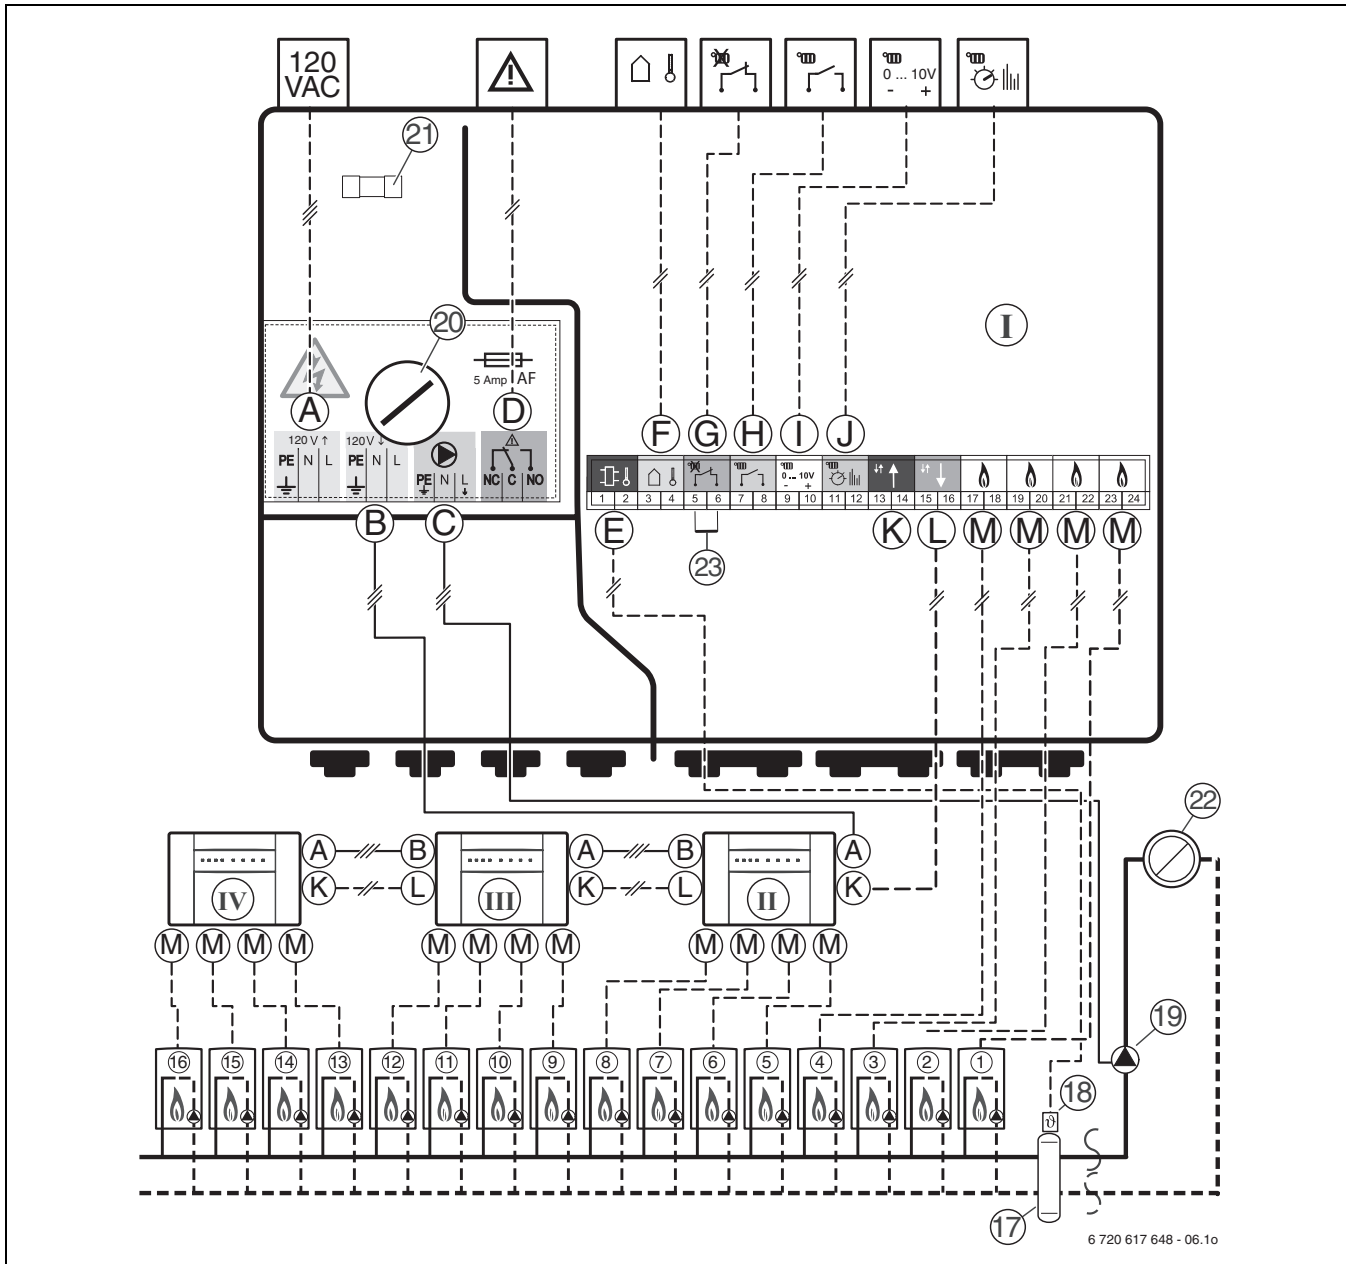

Fig. 6 Wiring diagram
1) (→ fig. 6, page 10)
The ICM modules stage the boilers based on the heat demand calculated. The heat demand is communicated to the ICM in 4 different ways (→ fig. 6, terminals H, I or J, page 10), (→ table 5).
One ICM module can control up to 4 boilers. By connecting up to 4 ICM modules, up to 16 boilers can be linked to form a single cascade (→ fig. 6, page 10). In this case, one ICM module controls the cascade (ICM master).
The ICM module is equipped with an external switching contact (→ fig. 6, [G]). For the characteristics of this switch, see → table 2, page 5.
Any additional modules (→ fig. 6, [21], page 10), must be connected to the BUS of the heating controller.
- ▶ Always wire in accordance with the wiring diagram (→ fig. 6, page 10).
The fault output can be used to signal the device status. The NC pins are powered when no fault is present. The NO pins are powered when a fault is present. (→ fig. 6, terminal D, page 10). The fault LED on the ICM will light when a fault is present and the relay is engaged. (→ table 9, page 16).
In conjunction with the Hydronic 3, always connect the outdoor temperature sensor to the ICM module (master) (→ fig. 6, page 10) and not to the boiler.
For system version 1, the common supply water temperature sensor must be connected to terminals J and for the system versions 2, 3 and 4, to the ICM, terminal E (→ fig. 6, [18], page 10).
Use terminal G (→ fig. 6, [23], page 22) to connect an external limit switch that interrupts all boiler operation when interrupted. Remove jumper [23] when installing an external limit.
- The BUS subscribers must be connected to terminal J (→ fig. 6, [23], page 10).